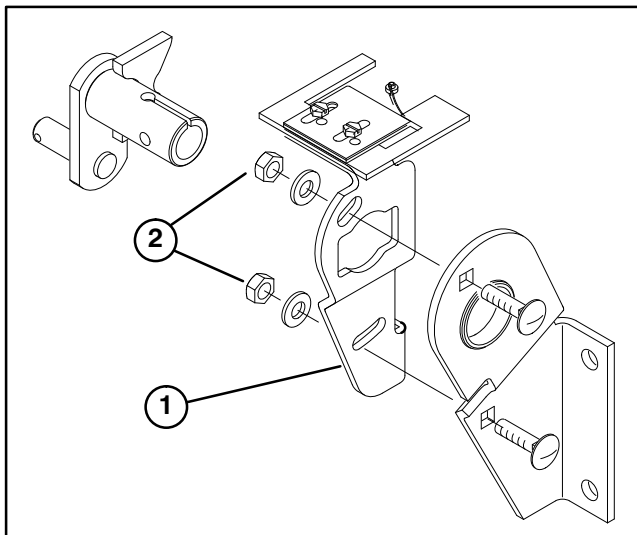

Figure 34
4. Loosen two locknuts securing pump plate so plate is free to move (Fig. 34).
5. Start engine and rotate pump plate (Fig. 34) in either direction until wheel ceases rotation.
6. Stop engine and tighten locknuts to secure pump plate (Fig. 34).